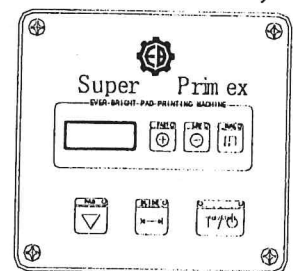

Figure 5
4. Push sweep button in Figure 5 to make ink cup move L/R. Turn ink cup knob assembly downward for adjustment if ink can not be scraped clean.